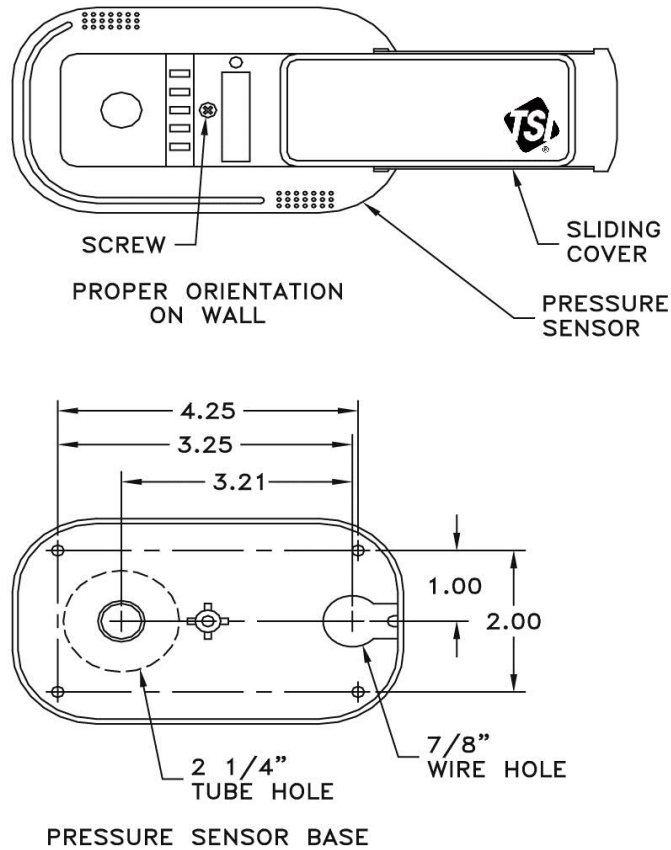

Figure 2: Pressure Sensor Orientation and Mounting Template
WARNING: 800326 pressure sensor must be mounted through the wall between the controlled space (laboratory) and referenced space (hallway), exactly as shown in Figure 2 and 3.
2. The pressure sensor must be orientated on the wall as shown in Figure 2. Looking at the mounted sensor, sensor hole is on the left (2 1/4") and wire hole is on the right.
4. Drill a 7/8 inch hole on the side of the wall that the pressure sensor will be mounted. This hole is for the six-conductor sensor cable. Refer to Figure 2 for a hole mounting pattern.
5. Slide sensor cover to right and remove screw that holds the sensor base to the pressure sensor (Figure 2). Remove pressure sensor and store in a safe place.